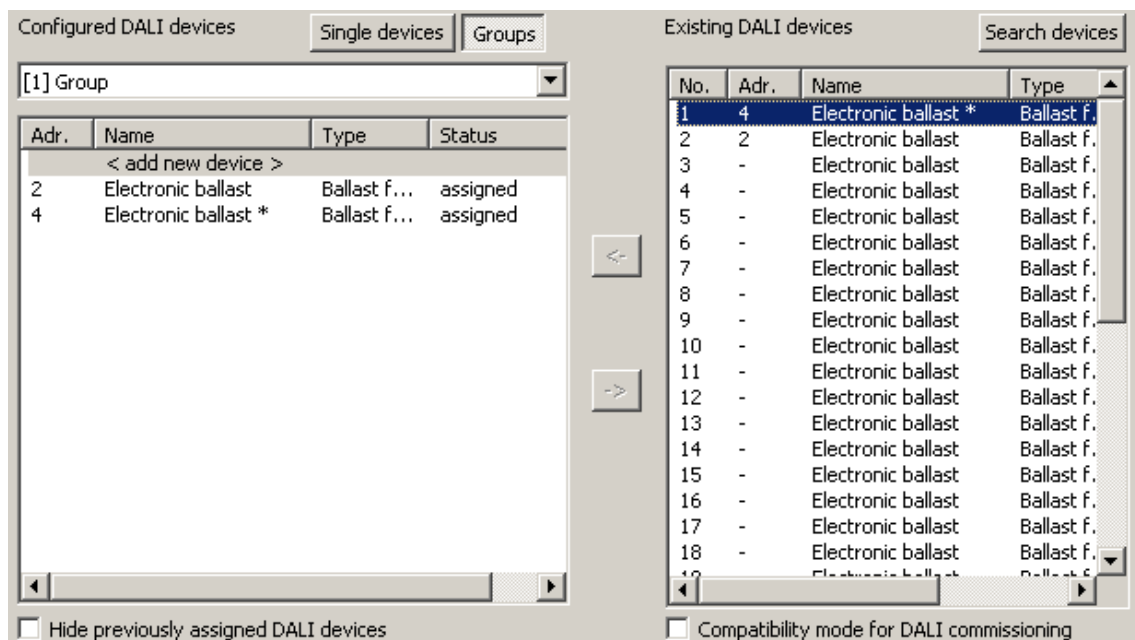

Figure 65: Operating device assigned to a group
- The assigned operating devices remain visible in the right-hand section and also appear in the left-hand section for the selected group (Figure 65). In the right-hand area, these electronic ballasts receive the short address of the assignment.